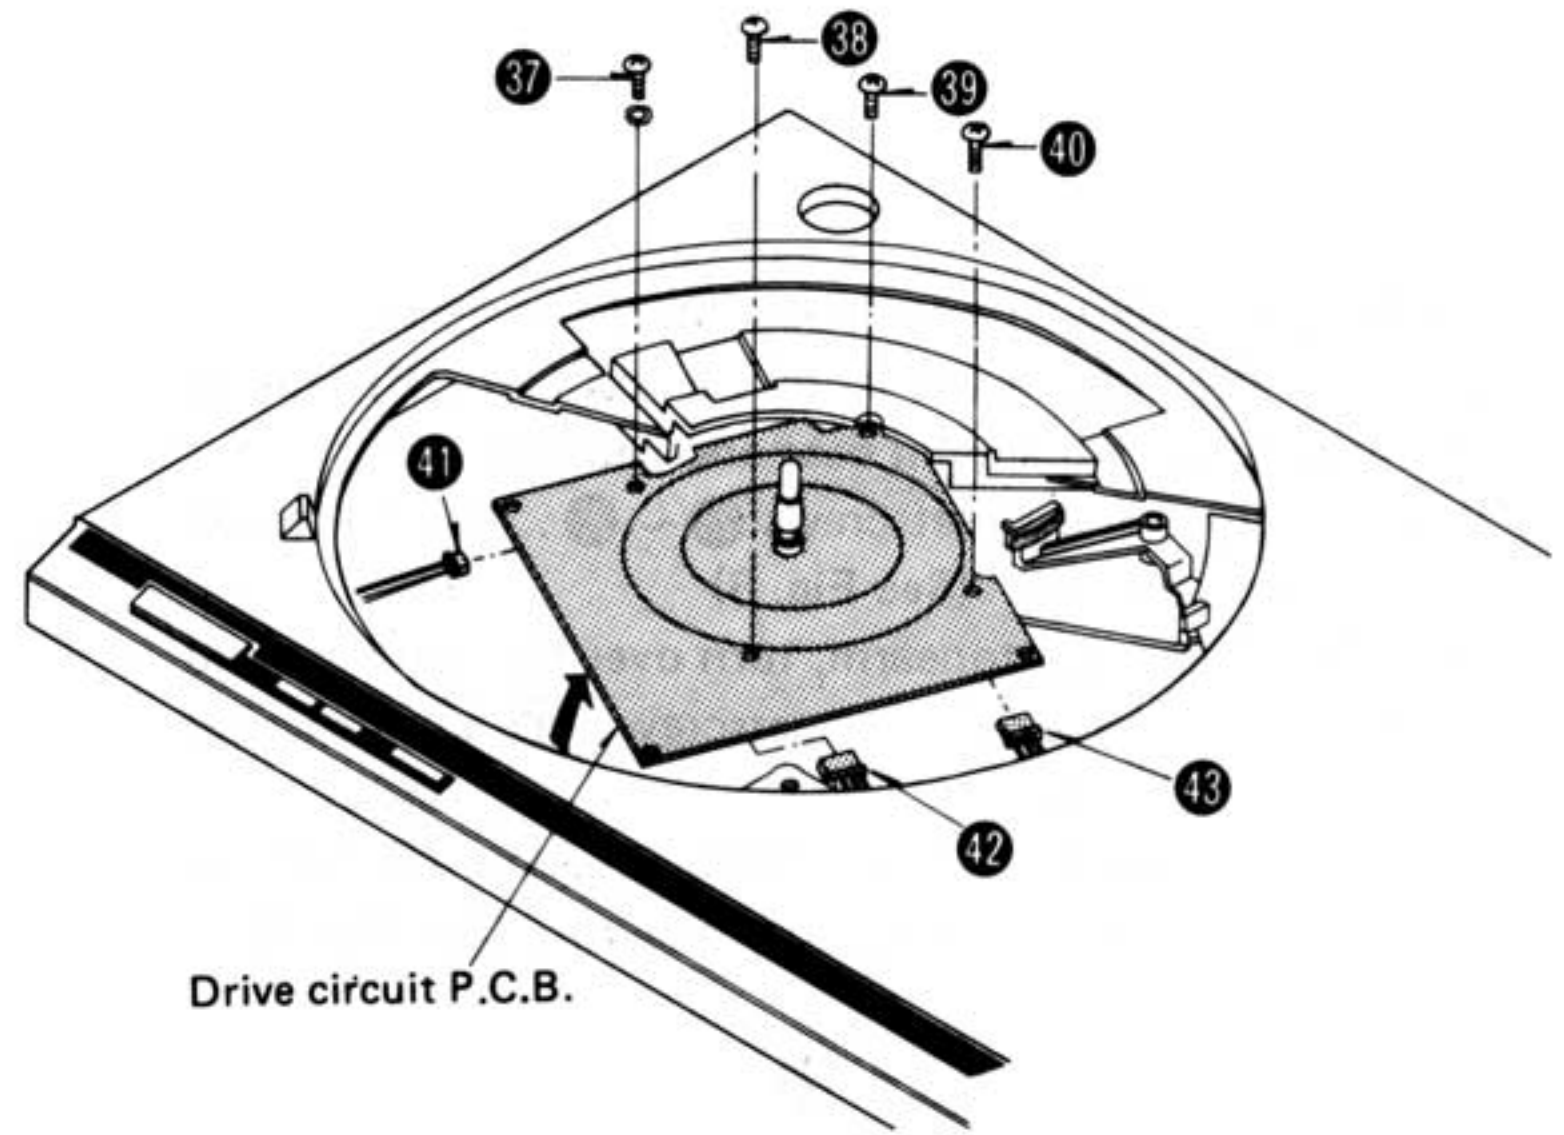

Fig. 9
2. Remove the drive circuit P.C.B. setscrews ③⑦ ~ ④① and connectors ④② ~ ④③. Remove the drive circuit P.C.B. by lifting it as shown by the arrow. Then, the electric parts can be replaced. (See Fig. 9)